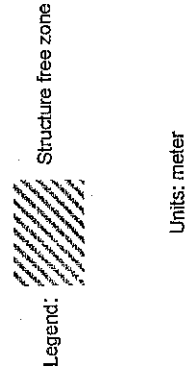

Figure Q5
1. A single storey winter garden for agricultural laboratories is to be constructed near the city centre. The winter garden is to be clad on all four elevations and on the pitch roof with glass (see figure Q5). The client has specifically requested for an aesthetically pleasing facade having high visual transparency with minimal use of structural components.
3. Four sets of double glass doors are to be provided at the front and rear elevations of the winter garden; their arrangements and clear opening dimensions are shown on figure Q5. The outer surface of the door shall be flushed with the outer surface of the vertical wall glass panels.